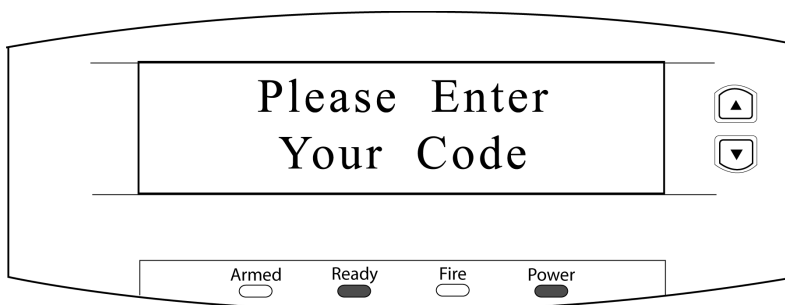

Figure 3: Alarm Panel - Enter Code
2. To enter the alarm panel programming mode, select the **\*** **8** keys. The alarm panel keypad will beep three times then prompt for the programming code (see Figure 3).